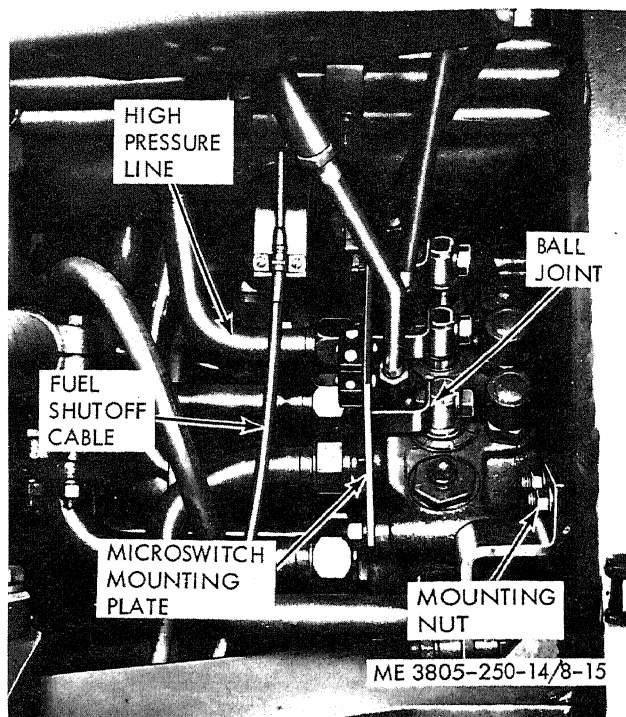

Figure 8-15. Loader control valve, removal and installation.
(1) Close the air valve on the hydraulic reservoir and slowly loosen the reservoir filler cap to depressurize the reservoir. Remove the drain plugs and drain the reservoir.
(2) Work the control levers back and forth to relieve oil pressure in the lines and control valve.
(3) Ensure that the control valve and surrounding areas are clean.
(4) Loosen two screws and remove the clamp securing the fuel shutoff cable (fig. 8-15). Disconnect electrical wiring to the lift and tilt microswitches and to the solenoids on the bottom of the valve.
(5) Remove three nuts, lockwashers, bolts, washers, and spacers securing the microswitch mounting plate to the valve, and remove the mounting plate.
(6) Disconnect the outlet line on the port side of the valve at the elbow and remove elbow, preformed packing, and restrictor fitting.